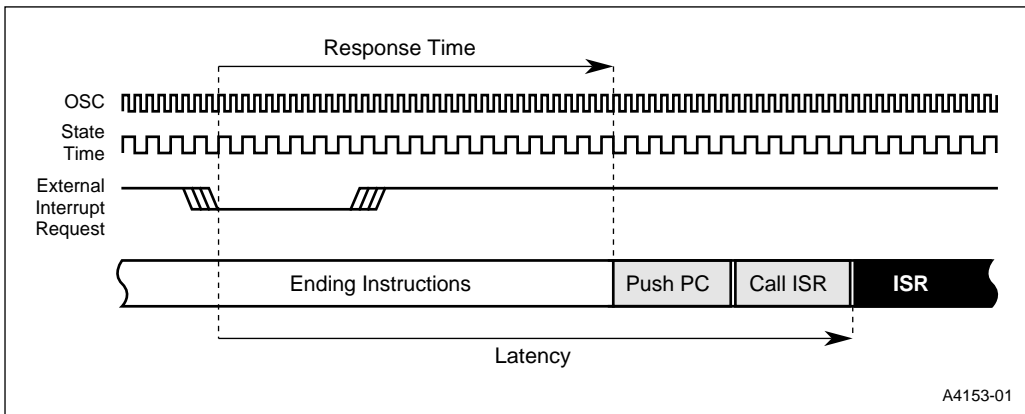

Figure 6-5. The Interrupt Process
Interrupt processing is a dynamic operation that begins when a source requests an interrupt and lasts until the execution of the first instruction in the interrupt service routine (see Figure 6-5). *Response time* is the amount of time between the interrupt request and the resulting break in the current instruction stream. *Latency* is the amount of time between the interrupt request and the execution of the first instruction in the interrupt service routine. These periods are dynamic due to the presence of both fixed-time sequences and several variable conditions. These conditions contribute to total elapsed time.
All interrupts are sampled or polled every four state times (see Figure 6-5). Two of eight interrupts are latched and polled per state time within any given four state time window. One additional state time is required for a context switch request. For code branches to jump locations in the current 64-Kbyte memory region (compatible with MCS 51 microcontrollers), the context switch time is 11 states. Therefore, the minimum fixed poll and request time is 16 states (4 poll states + 1 request state + 11 states for the context switch = 16 state times).
Response time is defined as the start of a dynamic time period when a source requests an interrupt and lasts until a break in the current instruction execution stream occurs (see Figure 6-5). Response time (and therefore latency) is affected by two primary factors: the incidence of the request relative to the four-state-time sample window and the completion time of instructions in the response period (i.e., shorter instructions complete earlier than longer instructions).
When an interrupt vector cycle is initiated, the CPU breaks the instruction stream sequence, resolves all instruction pipeline decisions, and pushes multiple program counter (PC) bytes onto the stack. The CPU then reloads the PC with a start address for the appropriate ISR. The number of bytes pushed to the stack depends upon the INTR bit in the UCONFIG1 configuration byte (see Figure 4-4 on page 4-7). The complete sample, poll, request and context switch vector sequence is illustrated in the interrupt latency timing diagram (Figure 6-5).